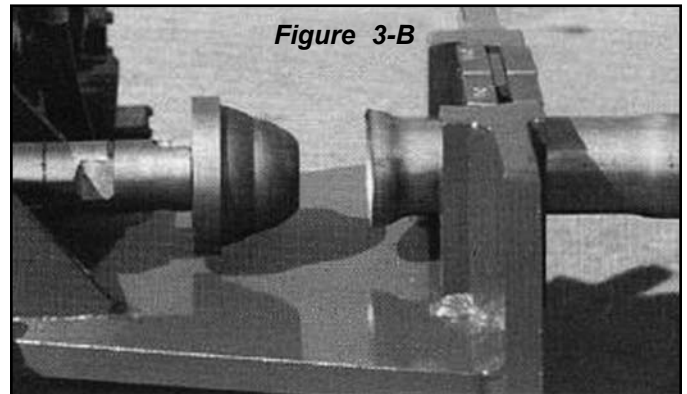

Figure 3-B
6. Slowly, while depressing the valve handle down, move the shaft forward until the tool enters the tubing. Be sure that the tool is centered with the tubing. Continue moving the cylinder forward until the expansion is formed. (See figure 3-B)